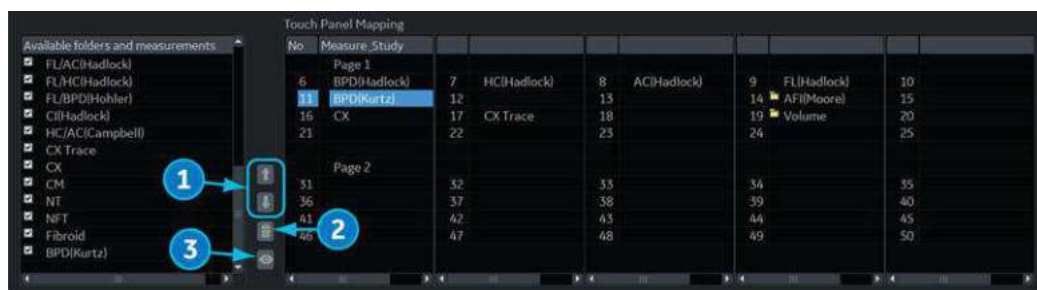

Figure 7-42. Move (1), Remove (2) and Hide (3) Icons
2. Move the cursor to the Up or Down Arrow Icon and press **Set** (see 1 in Figure 7-42 on page 7-83).
2. Select the Trash Icon to the right of the list (see 2 in Figure 7-42 on page 7-83).
2. Select the Hide Icon to the right of the list (see **3** in Figure 7-42 on page 7-83).